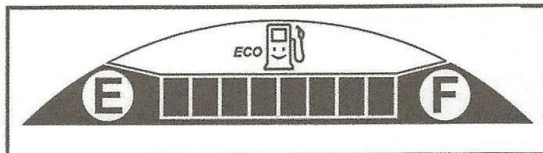

Figure D15: ECO MODE Confirmed Displayed
- c. Press and hold the SET button until ECO MODE reappears. To confirm the ECO mode, the symbol ECO is displayed on the LH of the smiling fuel tank. See Figure D15.